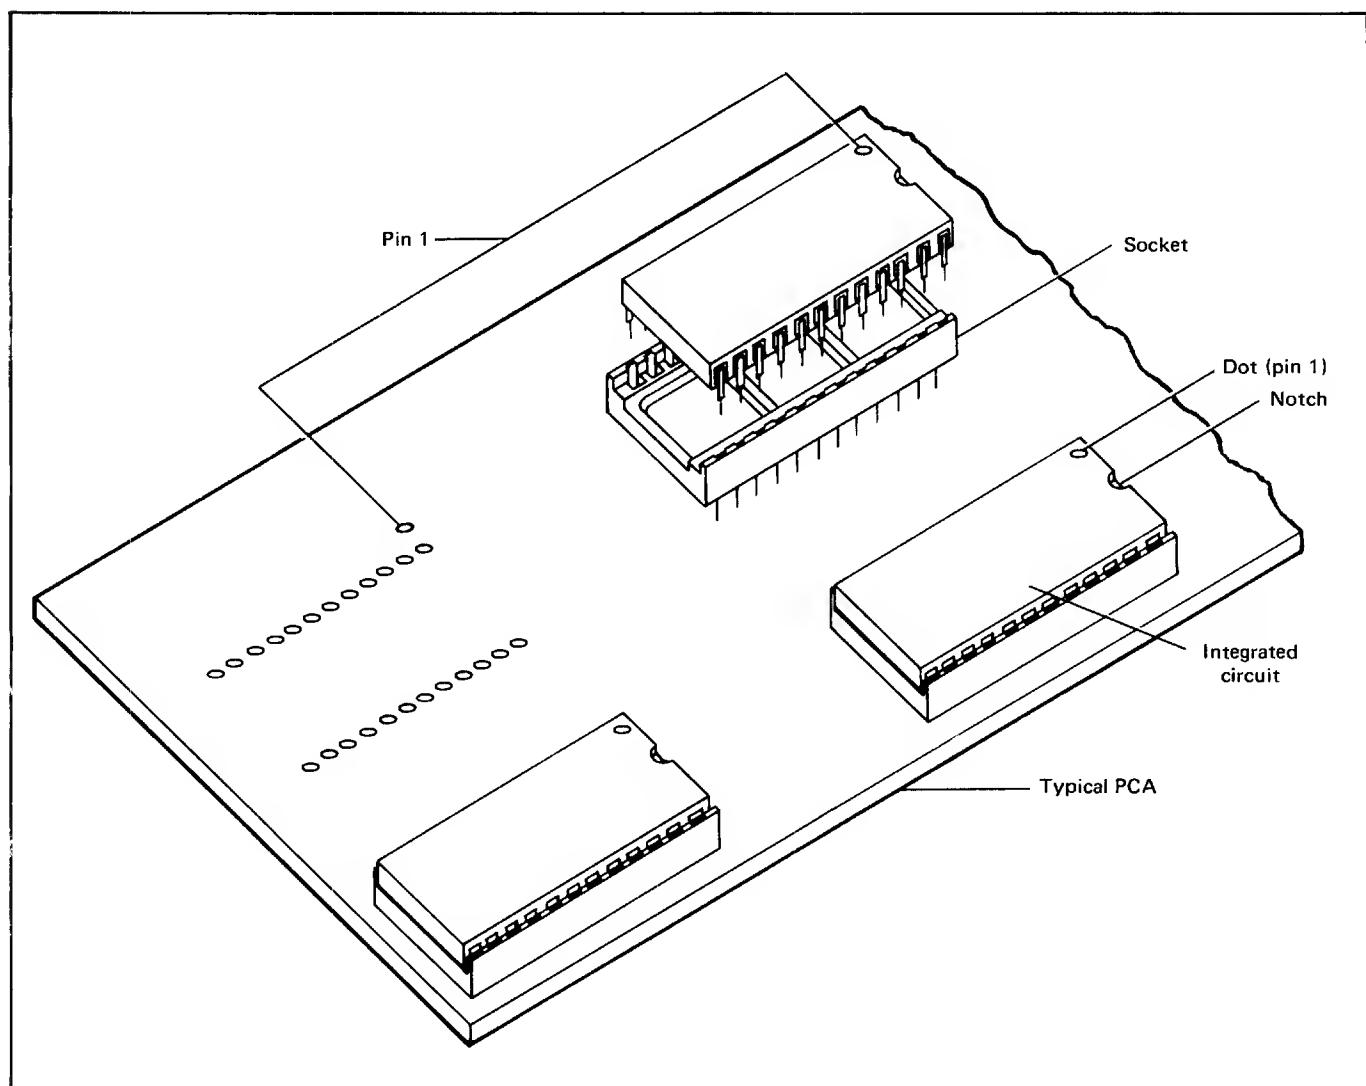

Figure 7-10 Installing An IC
1. If replacement PCA requires ROM's, transfer them from the previously removed PCA. Use an IC removal tool (part no 8710-0585) to carefully withdraw the ROM's from their IC sockets (see figure 7-10).
**REPLACEMENT** When replacing a defective IC, be aware that each IC must be oriented and aligned in its socket, i.e. pin 1 of the IC matches pin 1 of the PCA. All IC's on a PCA are usually installed in the same direction, i.e. the notched ends of the IC's are facing in one direction for correct orientation. Pin 1 is usually indicated on the PCA by a mark and pin 1 on the IC is marked by a dot or notch. These markings help to ensure that both the IC socket and IC are installed correctly (see figure 7-10). Install new IC as follows: